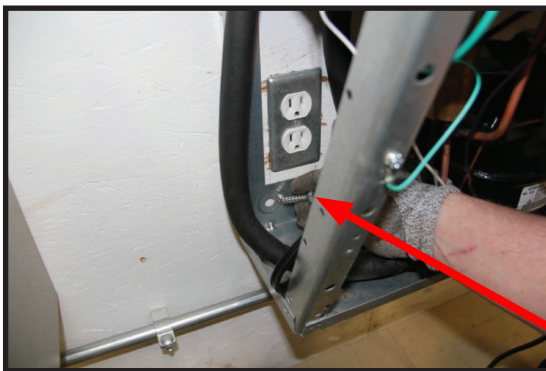

FIG. 7
3. Secure cooler frame to wall by installing (2) screws and washers (not supplied) in lower holes. (See Fig. 7, Pg. 9). Make sure the screws engage in a structural member.